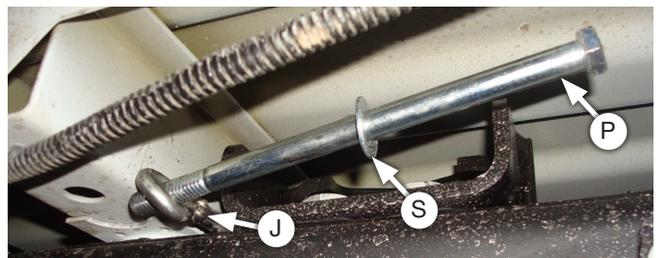

Fig. 25
4. Insert the 3/8" Hex cap screw (P) through a 3/8" flat washer (S), then all the way through the eye of the L-bolt (J) (Fig. 25).